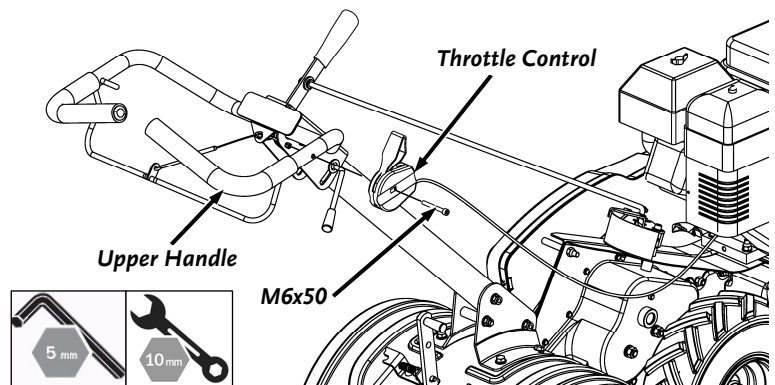

Figure 7
2. Then, align the hole in throttle control and the hole in the upper handle. (See Figure 7) Insert the M6x50 screw and screw the nut to tighten. Pay attention to the degree of tightness, and make sure the throttle lever can be moved normally.